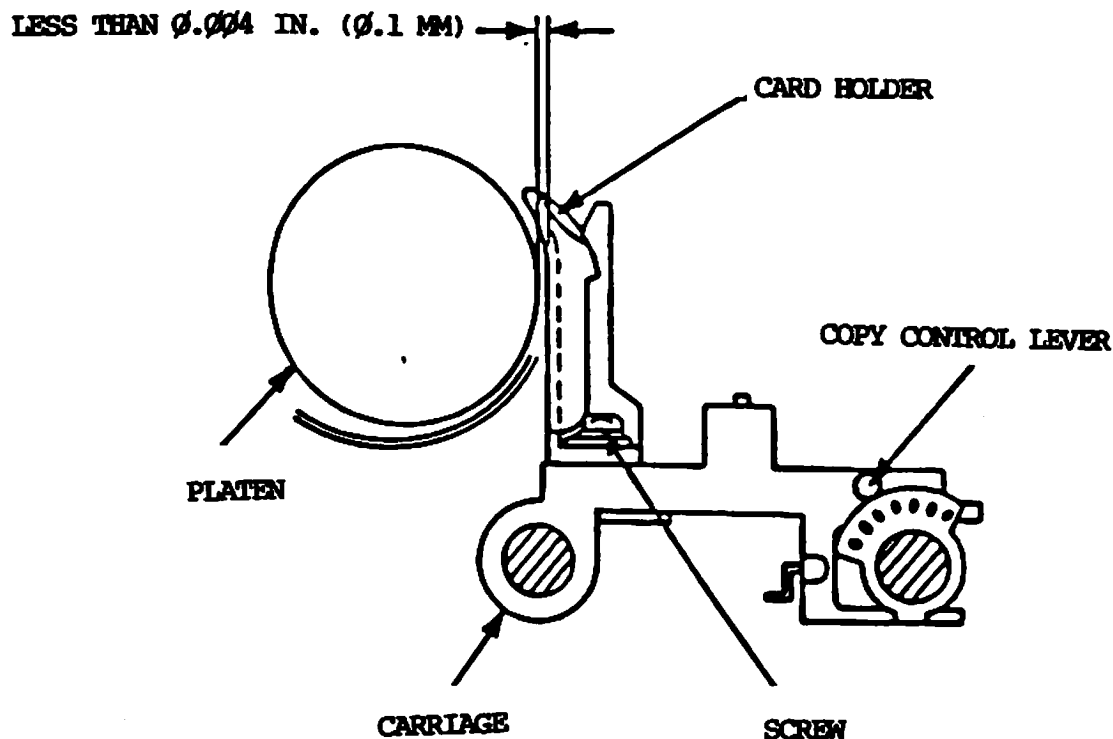

Figure 4-1 Card Holder Adjustment
4. Set the clearance between the card holder and the platen to less than $\emptyset.004$ in. ($\emptyset.1$ mm) as shown in Figure 4-1.